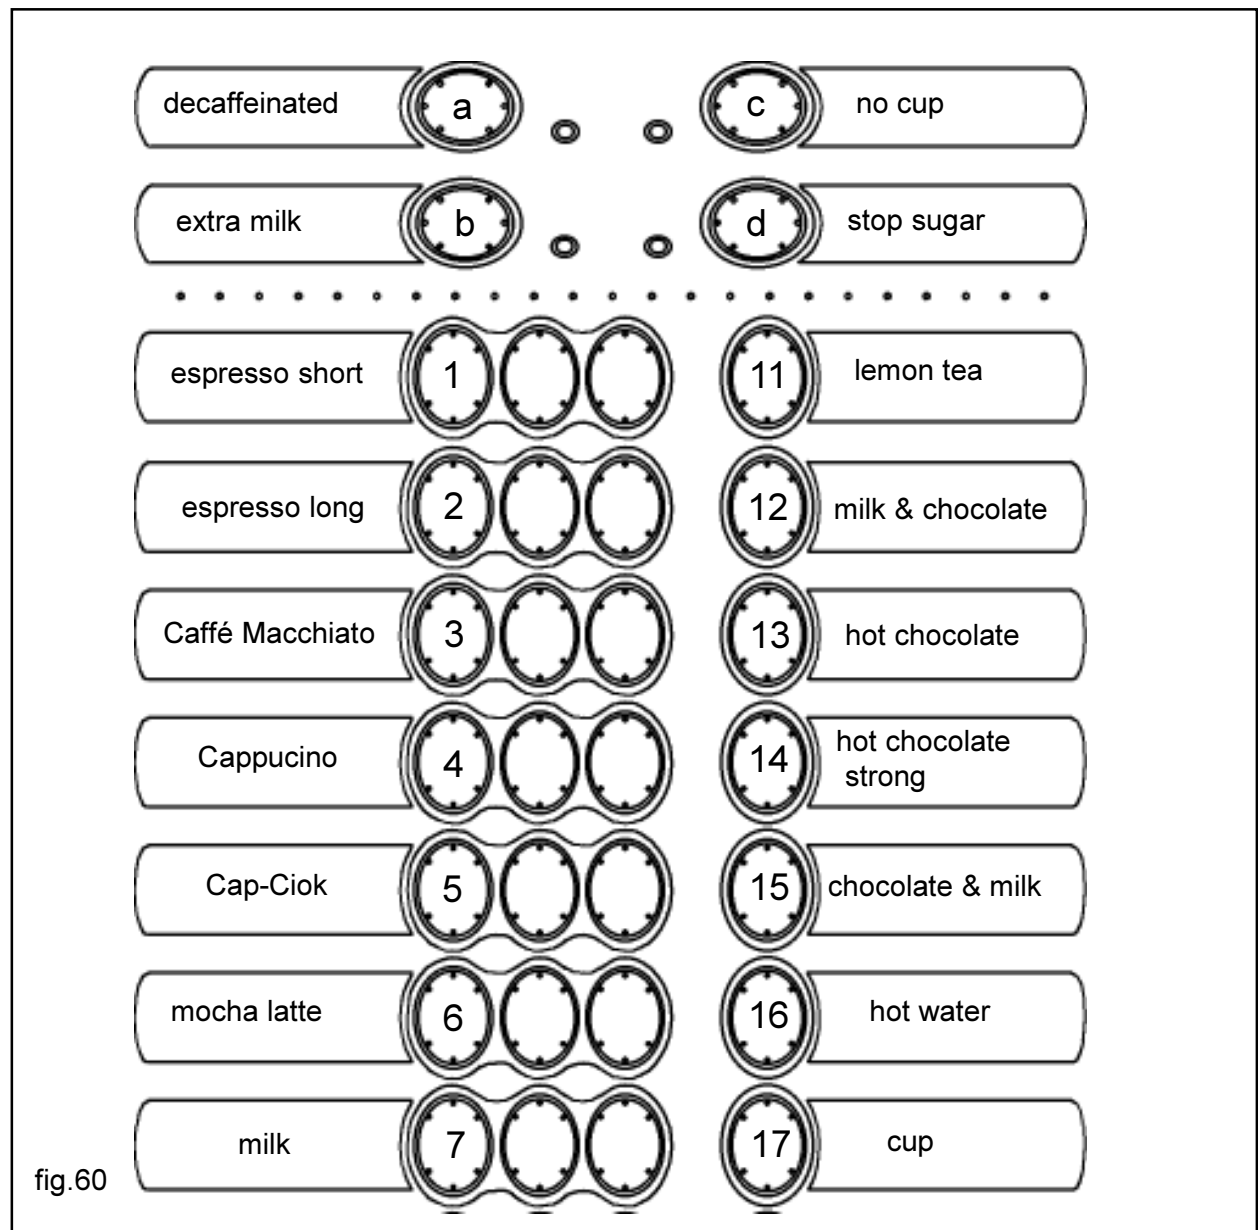

fig.60
For programming, some of the keys of the keyboard are used (fig 60), namely:
KEYBOARD (fig.60).
If you are in SERVICE mode, first, go to SELECTION, pressing key 2 (fig.60) then go to PROGRAMMING, pressing key 1 (fig. 60).